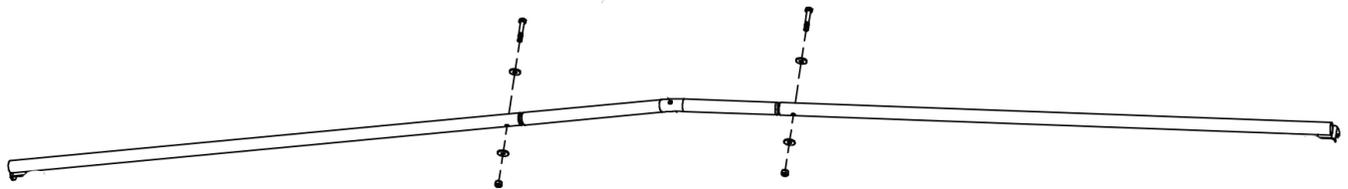

Figure 35
STEP 4: Assemble the three (3) parts of the ladder bridge support to together with two (2) 1/4" x 1-1/2" bolts, four (4) washers and two (2) nuts as shown in Figure 35.
STEP 1: With the help of two (2) other adults (refer to Figure 35) at the base of the ladder stand holding it steady, climb to a height which allows you to safely attach your full-body fall arrest harness tether to the tree trunk as soon as possible. After your tether has been attached to the tree trunk, disconnect the ratchet strap which secures the tree blade.
STEP 2: Disconnect your tether and climb back down to the ground. Remove the stabilizer straps and disconnect the tree brace assembly. With the help of two (2) other adults, gently lower the treestand to the ground.